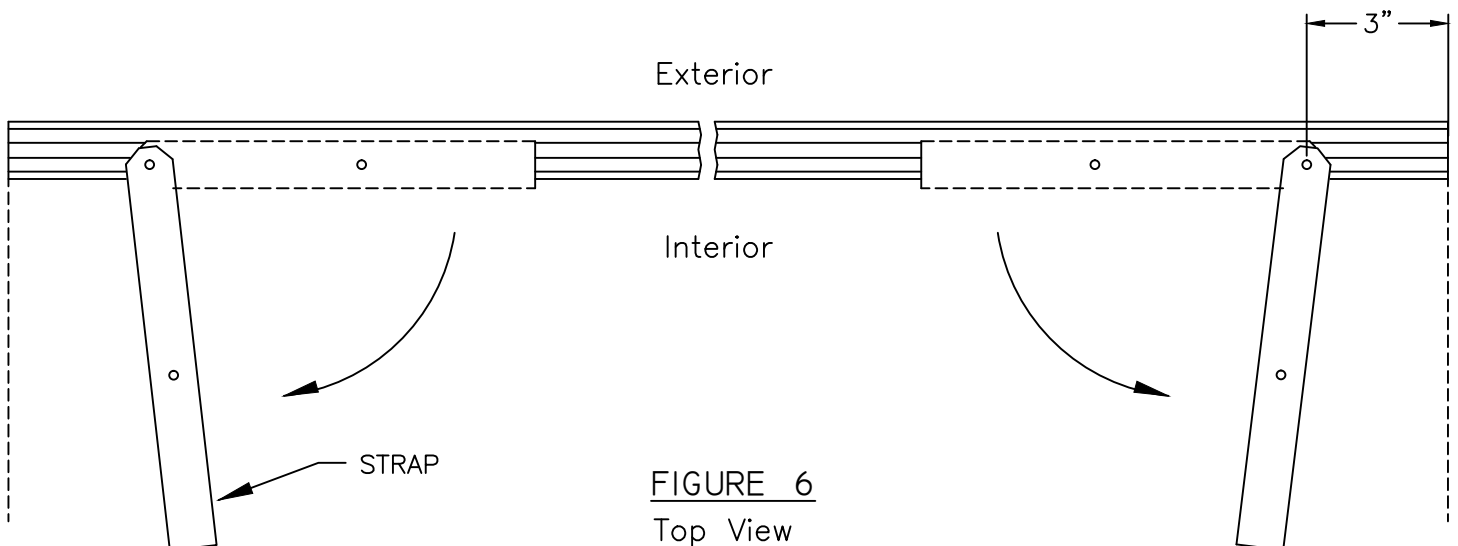

FIGURE 6
- A. Rotate Strap away from Frame so it is just short of being perpendicular (see FIGURE 6).